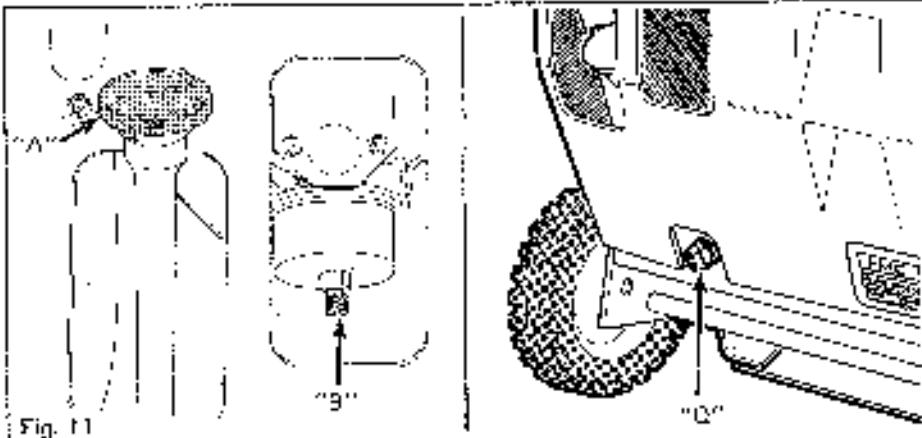

Fig. 11
operating position (wheels and scraper blade on the ground). Clean dirt and/or snow from around opening (A), Figure 11. Keep oil level to "I FULL" mark on dipstick. Refer to Engine Manual for proper procedure to drain and refill engine crankcase. The drain plug (Q), Figure 11 is located on backside of unit in the bottom left-hand corner. Refer to Engine Manual and/or BEFORE OPERATION instructions for proper type oil and quantity.
**4 CYCLE ENGINE** - The engine has been pre-set to run at 3600 RPM. Turn high speed adjustment needle (B), Figure 11, to regulate flow of gasoline to the engine. For complete adjustment procedure, refer to Engine Manual.